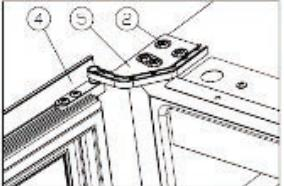

Figure 6
- Turn the door ④ 180 degrees, and insert the right lower hinge ⑤, screw tight M5\*16 screws ②. [Figure 6] Door reversing is finished.